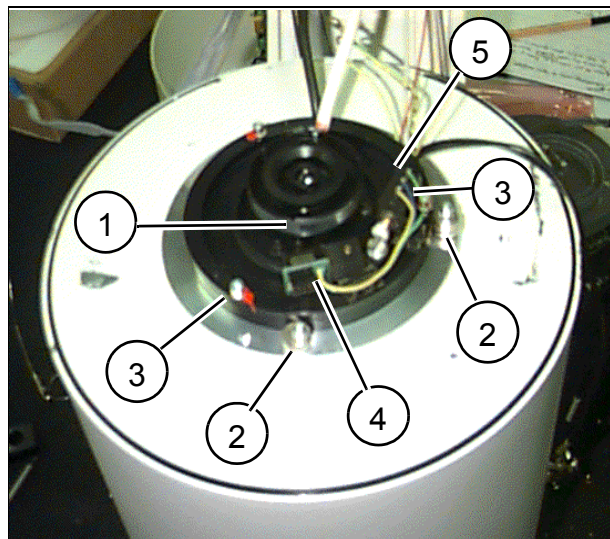

Fig. 7
- Loosen the camera set screw slightly and remove the camera (1/Fig. 7).
Do not loosen the eccentric screws (2/Fig. 7) on the edge of the Compact L optics. These are used to center the Compact L optics to the I.I. output. When removing the Compact L optics, make sure that no dust or dirt contaminates the I.I. output window or the Compact L optics.
- Disconnect plug M30.X1 (4/Fig. 7).
- Loosen and remove the Compact L optics (3/Fig. 7).
- To do this, connect an ohm meter to the potentiometer for camera rotation, location 2 and 3 (5/Fig. 7). The resistance must measure 5000 ohms $\pm$ 40 ohms in the middle position.
- If necessary, adjust the camera with the clamping ring (1/Fig. 7) by rotating it to the correct position.